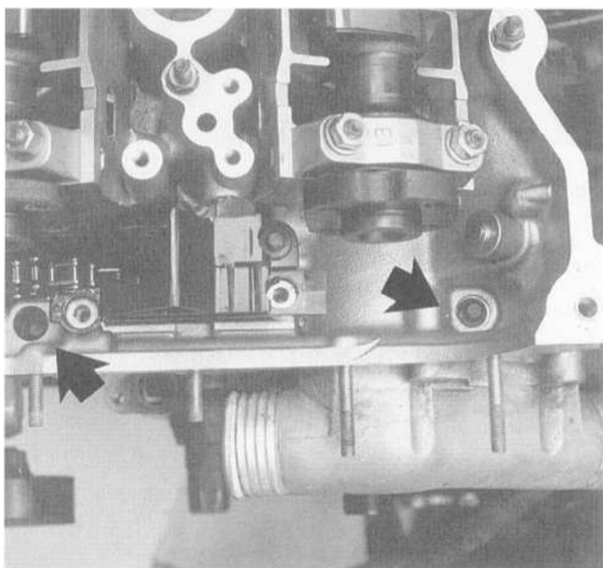

Fig. 12. Cylinder head-to-timing chain cover mounting bolts (arrows)
22. Remove the three bolts holding the lower timing chain cover to the cylinder head (use Torx E8 socket). See Fig. 12.